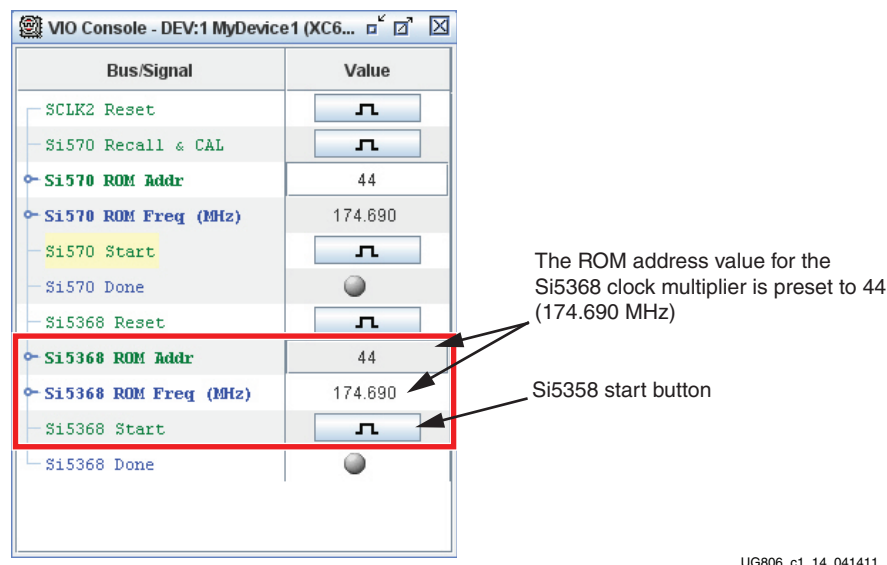

Figure 1-14: Si5368 Address, Frequency and Start Button
2. The clock sources on the SuperClock-2 module are controlled from the VIO Console. Click on the **Si5368 Start** button (Figure 1-14) to enable the clock output.